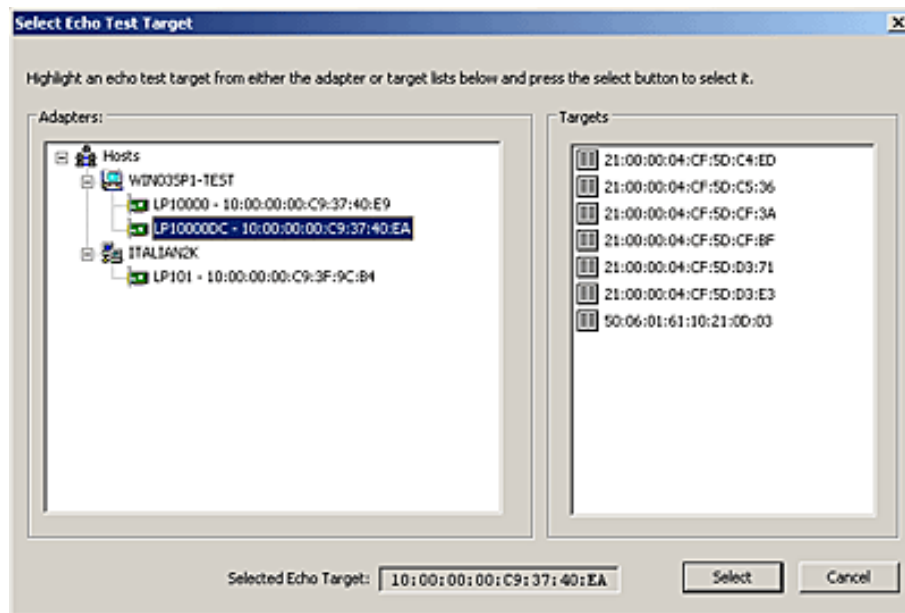

Figure 68: Select Echo Test Target window
- Select the **Diagnostics** tab. Click **Advanced Diagnostics Test** (see Figure 68 on page 143).